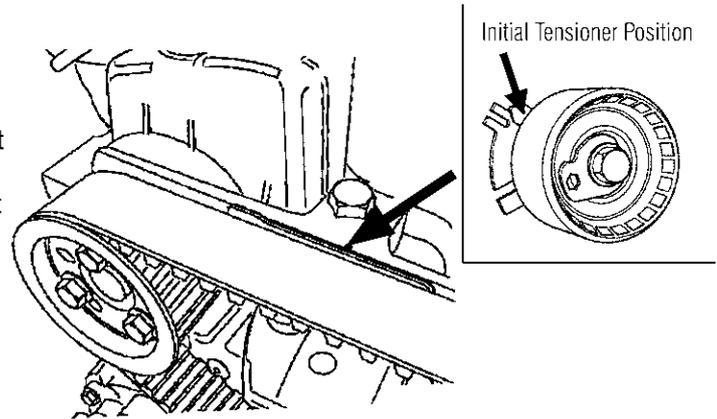

Fig.9
4.3.5 Initial Tensioner Position (Fig. 9)